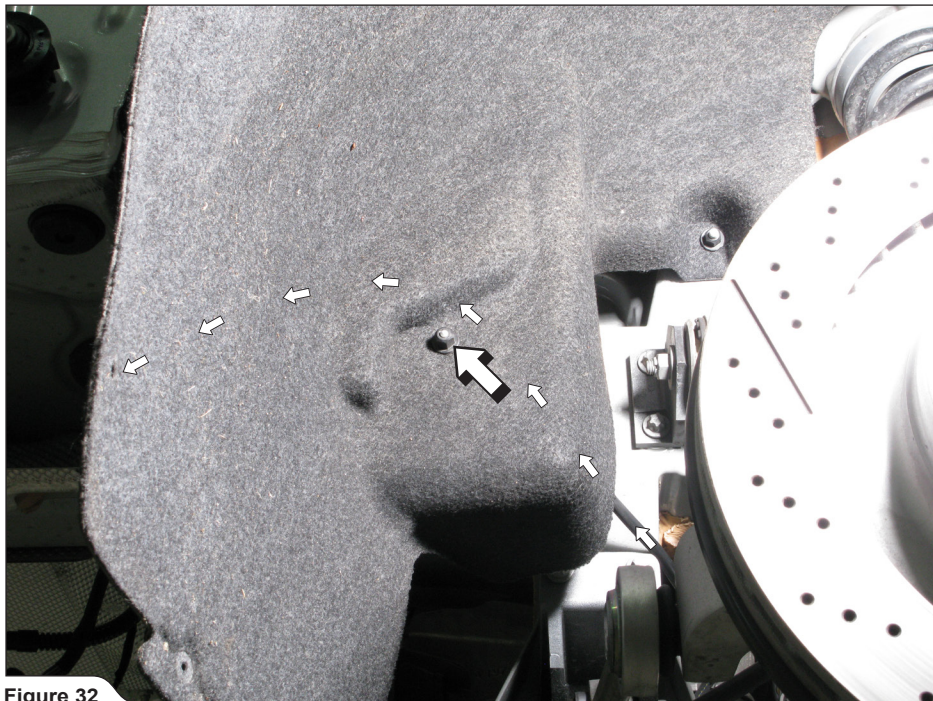

Figure 32
6. **For wireless kit installation:** Unscrew marked nut, partially remove right wheel arc panel and direct the vacuum tube as shown **(Figure 32)**.